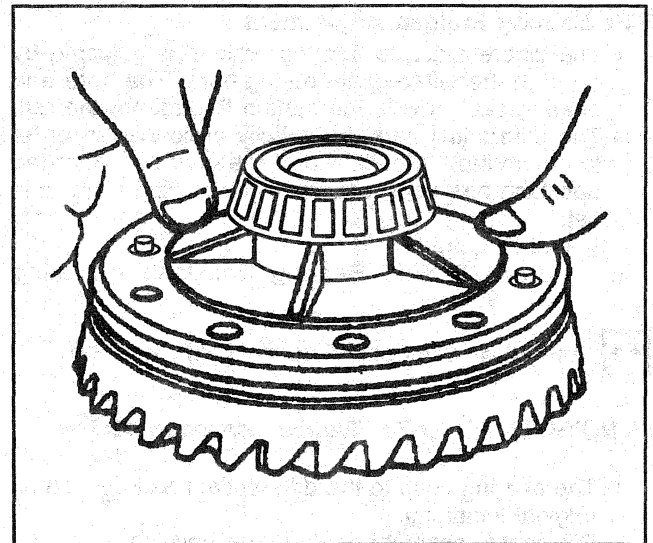

Figure 19—Aligning the Ring Gear Studs
- B. Place the ring gear onto the case, and align the holes in the case with the bolts (Figure 19).